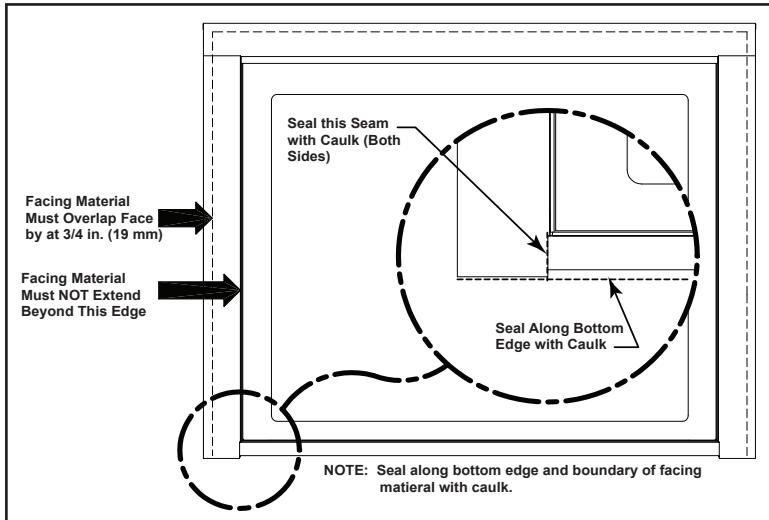

Figure 10.3
3. Install facing material to overlap the face of the fireplace by at least 3/4 in. (19 mm), apply high temp weather adhesive sealant between the face of the fireplace and the facing material to ensure the fireplace is sealed from the weather outside following the parameters in Figure 10.3.
6. Install facing material to overlap the fireplace by at least 3/4 in. (19 mm), apply high temp weather adhesive sealant around the perimeter of the faming material and the fireplace. Also seal along the bottom edge of the fireplace. See Figure 10.3